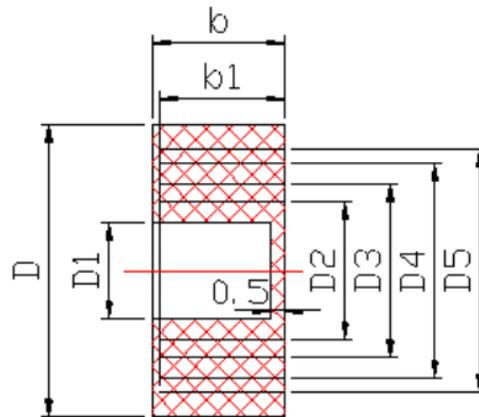

Figure 3
7.2.6 Cable outer diameter of should fit bore diameter of the seal ring (Figure 3). Min diameter of cable is D1, max D5, seal ring is of Nitrile rubber NBR, specification and dimension see table 4 (concentric-ring of seal gasket can be striped off to fit inner diameter of incoming cable). The diameter gap should not exceed 1mm. Clamp the connection plug and ensure that there is no clearance between seal ring and power cable as well as between seal ring and connection box body, otherwise the motor will lose its explosion-proof function.